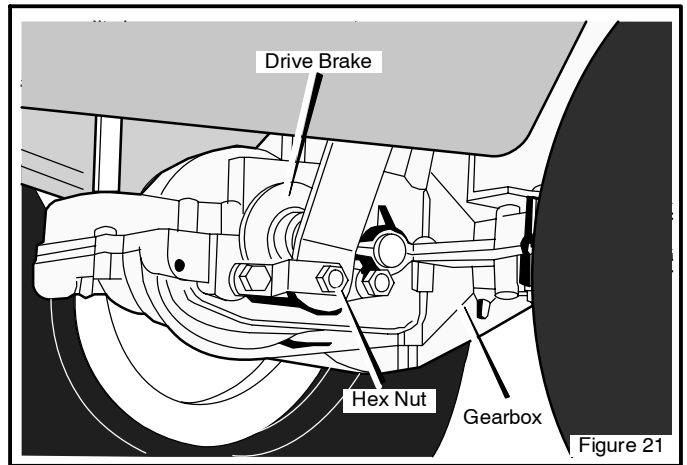

Figure 21
1. The location of the **drive brake** is on the right side of the **gearbox** (Figure 21).